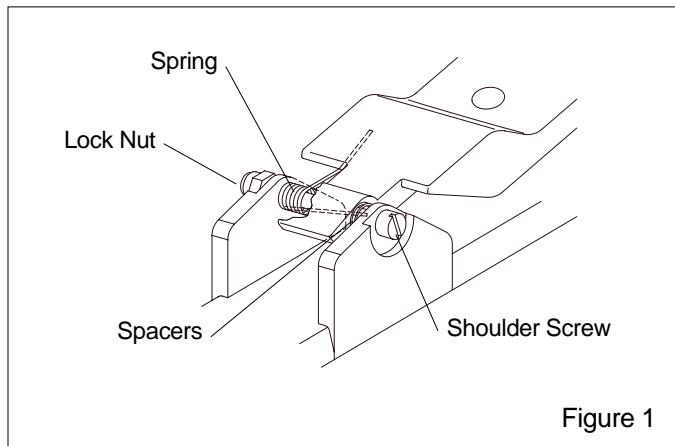

Figure 1
**1.0 Remove Handle Lever, Figure 1**
**1.1** Remove the lock nut from the shoulder screw. Before removing the screw, note the positions of the spacers and spring as shown in Figure 1. The bent end of the spring is against the handle lever and facing up. The straight end is against the body and facing down. The spring and spacers must be placed correctly when reinstalling the handle per Section 5.0.
**5.1** Reassemble the handle lever, making sure the spring and spacers are placed as shown in Figure 1. Use a new return spring if the current spring does not raise the handle lever to the full up position.